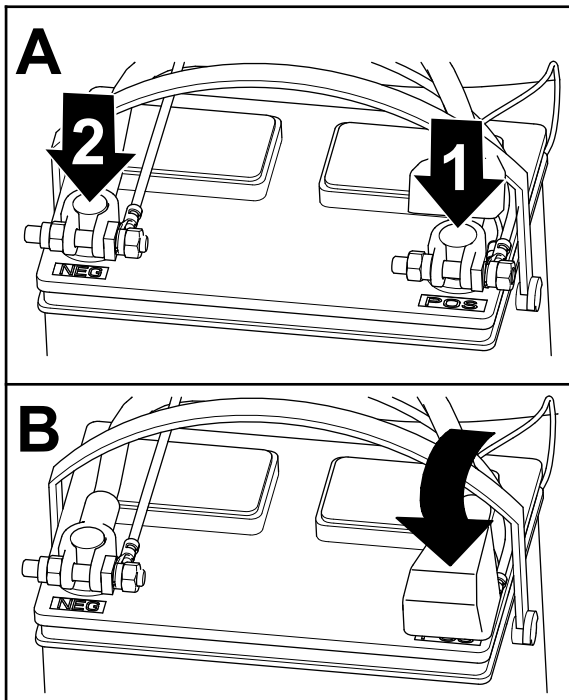

Figure 23
1. Connect the positive cable to the battery and tighten the battery-clamp nut (Figure 23).
2. Connect the negative cable to the battery and tighten the battery-clamp nut (Figure 23).
3. Assemble the insulator over the positive battery terminal (Figure 23).